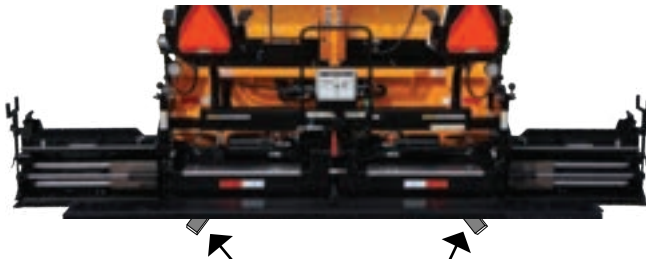

Figure 4-45. Starter Blocks Location
3. To set the depth, you can place a small starter block under the screed while you make adjustments. **(Figure 4-45)**